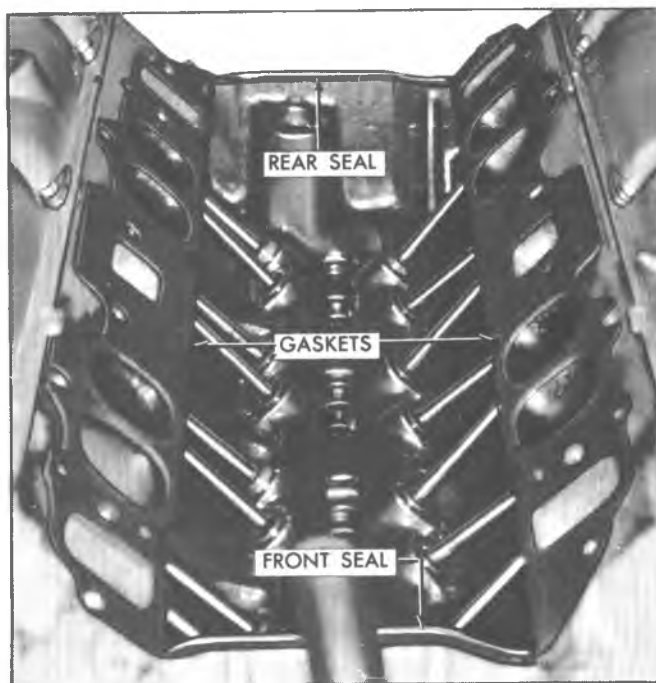

Fig. 5V—Intake Manifold Gasket and Seal Location
2. Install manifold seals on block and gaskets on cylinder heads (fig. 5V). Use sealer at water passages and where seals butt to gaskets.